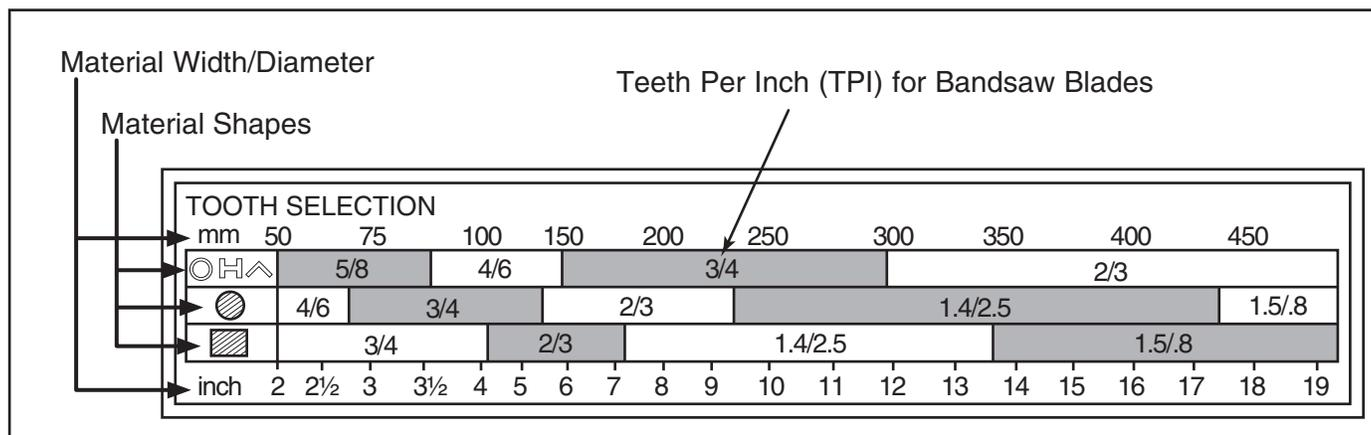

Figure 27. General guidelines for blade selection and speed chart.
2. Refer to "Material Width/Diameter" row of blade selection chart in **Figure 27**, and read across to find workpiece thickness you need to cut.